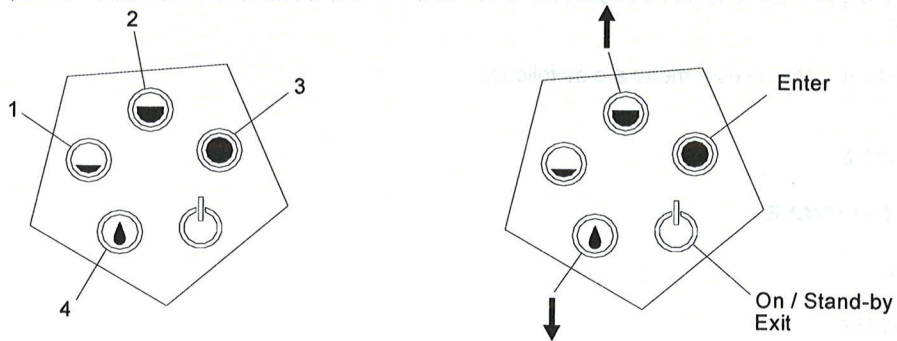

Fig.1 Keypad functions and layout
The main delivery keys (1,2 and 3) are indicated in Fig.1, and it is subsequently possible to program duration of hot water delivery (4) and steam delivery duration.